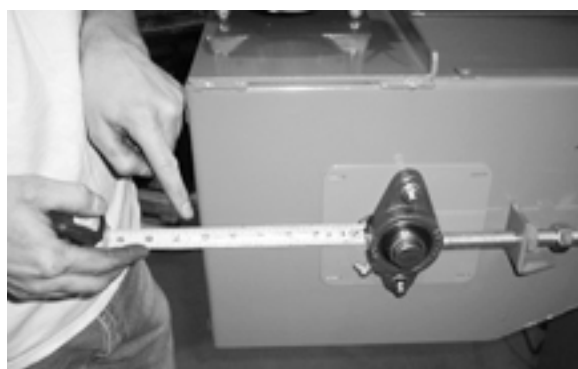

Figure 7. Checking for Headshaft Skew
- Measure the distance between the bearing and the front edge of the sidewall (Figure 7) to verify that the headshaft is not cocked (skewed).